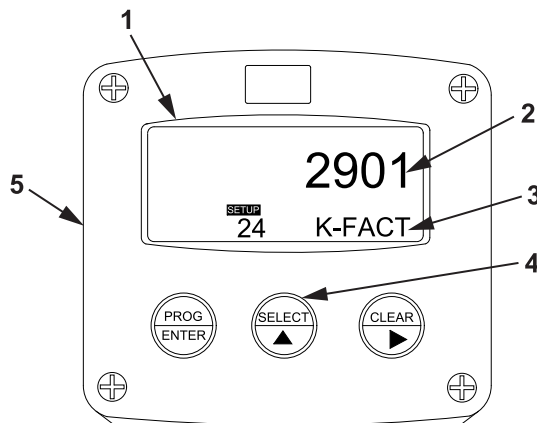

Figure 13. K-FACT Display.
- h. Verify that K-FACT (Figure 13, Item 3) appears on the display screen (Figure 13, Item 1) and that the K-factor (Figure 13, Item 2) displayed matches the K-factor written on the tank volume meter. If the K-factor (Figure 13, Item 2) displayed does not match, perform the procedure to program tank volume meter monitor settings and enter the K-factor as shown on the tank volume meter.
- i. Press the SELECT key (Figure 13, Item 4) on the tank volume meter monitor (Figure 13, Item 5).